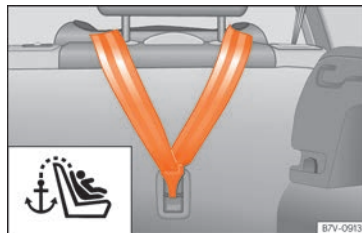

Fig. 40 Upper retaining strap hooked in the luggage compartment
- Hook the upper retaining strap to the corresponding retaining ring (for Top Tether) on the back of the seat backrest on the rear seat » » **Fig. 40.**